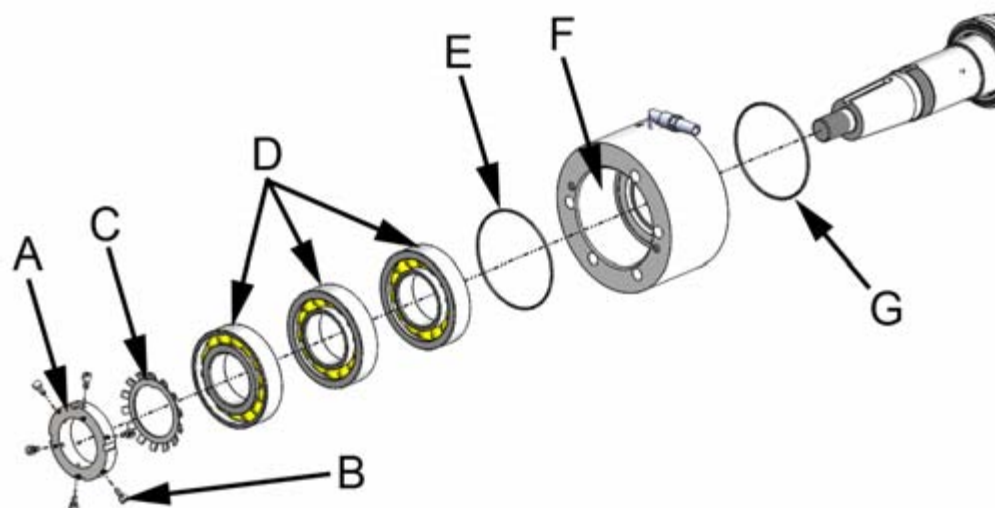
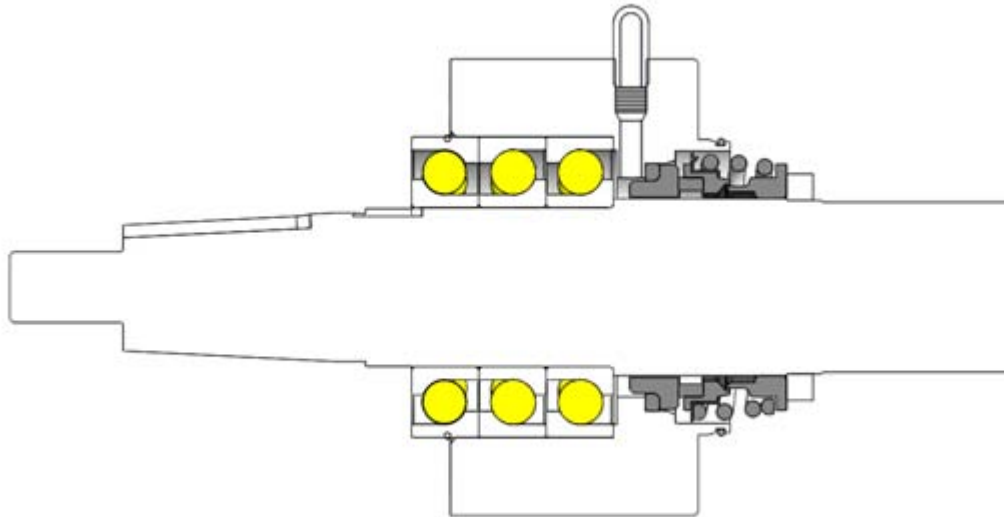

Figure 16. Pushing the bearings onto the shaft
Figure 17. Bearings (cross-section)
3. Place the bearings into the bearing housing and press them on to the shaft together (figure 16). Please note that the bearings must be installed in the correct way. See figure 17.
Tighten the nut by first tightening it against the bearings by hand and then use a shaft nut wrench to tighten it enough to make one of the teeth of the lock washer connect with the groove in the nut. Finish by turning the tooth of the lock washer into the shaft nut groove (figure 16, point A).